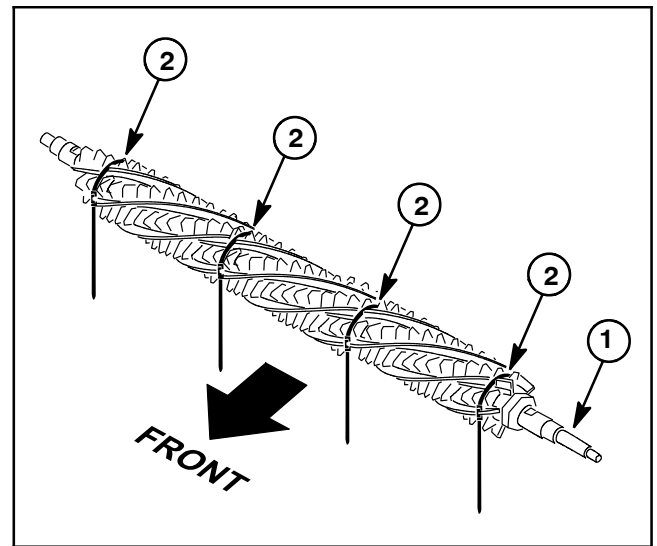

Figure 17
5. If groomer reel is equipped with broomer kit, position broomer brushes to reel blades and secure with straps. Straps should be wrapped around the groomer assembly as shown in Figure 17 and between blades 1-2, 14-15, 28-29 and 41-42. Pull straps tight and cut off strap extension approximately 1/4" (6 mm) beyond retainer.